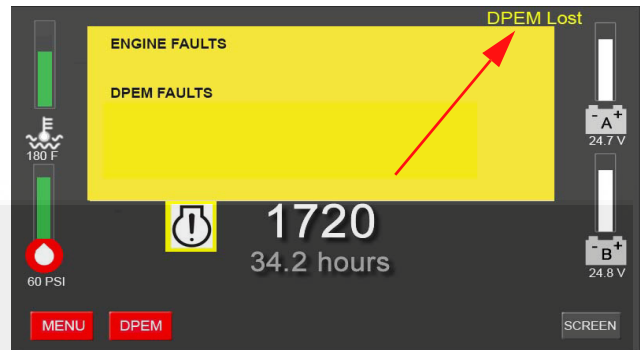

Figure 2-7 DPEM Lost Fault Screen
- **Communications have been lost with the Digital Panel Expansion Module (DPEM)**. As shown in Figure 2-7, "DPEM Lost" will appear on the FPDP User Interface Screen if communications between the FPDP and DPEM are compromised.